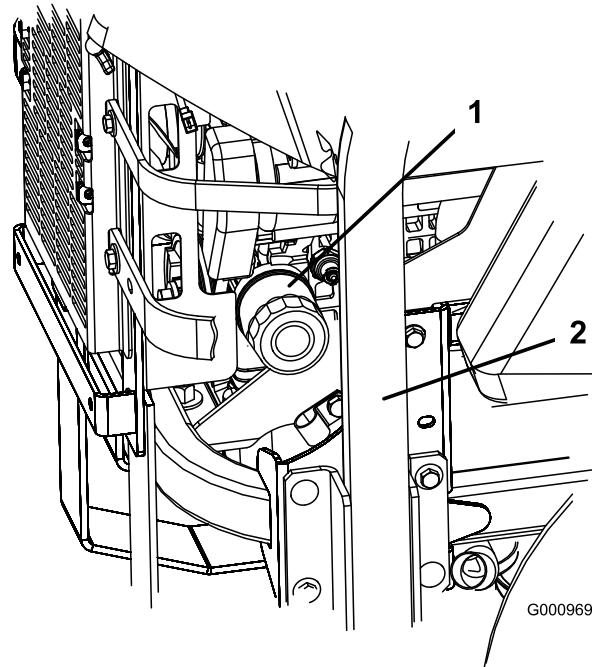
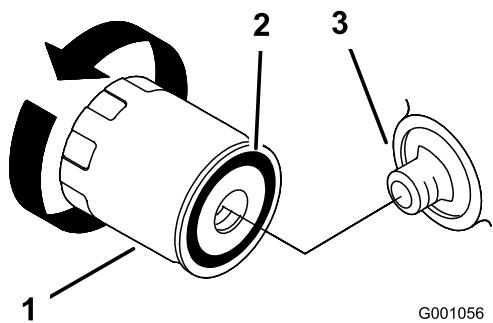

Figure 44
Figure 45
3. Turn the filter counterclockwise to remove it (Figure 44 and Figure 45).